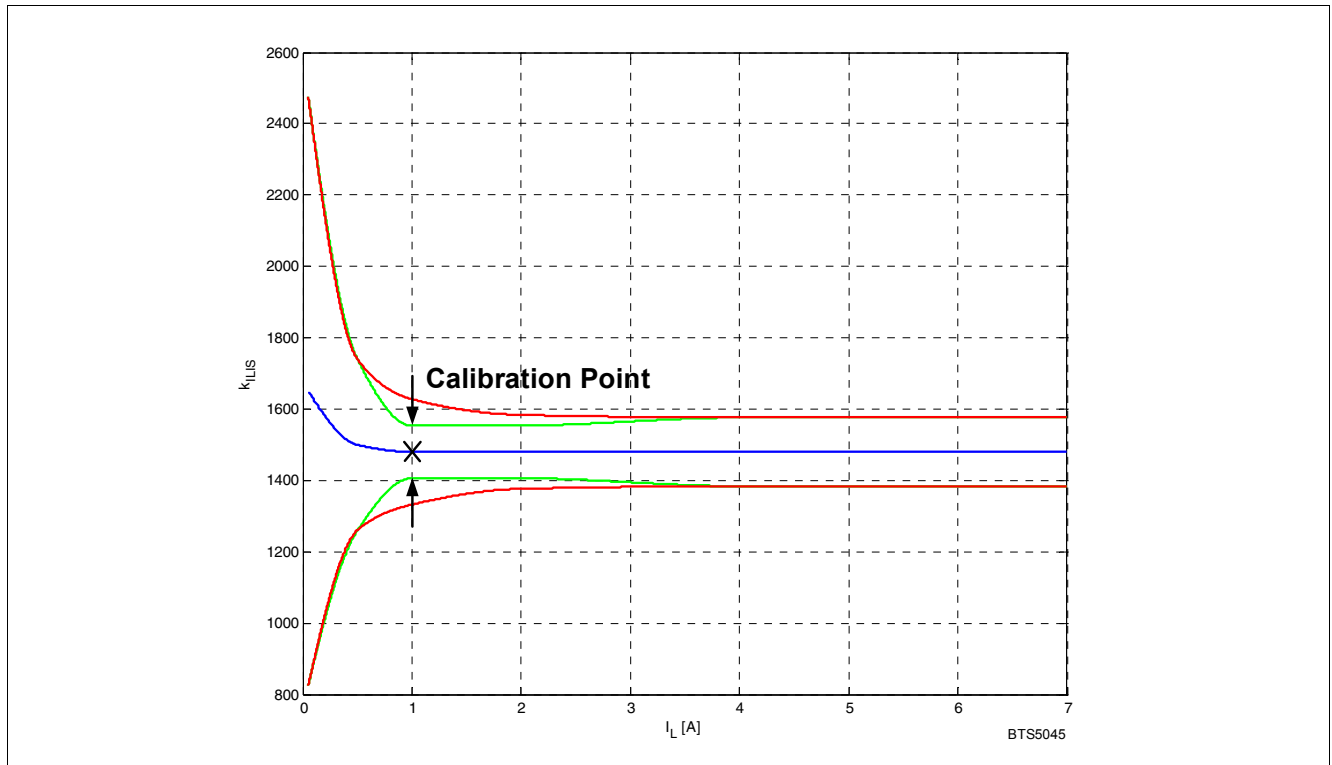

Figure 22 Improved SENSE Accuracy with One Calibration Point
**Figure 21** and **Figure 22** show the current sense as a function of the load current in the power DMOS. Usually, a pull-down resistor  $R_{IS}$  is connected to the IS pin. This resistor has to be higher than  $560\ \Omega$  to limit the power losses in the sense circuitry. A typical value is  $1.2\ \text{k}\Omega$ . The blue curve represents the ideal SENSE, assuming an ideal  $k_{ILIS}$  factor value. The red curves show the accuracy the device provides across full temperature range, at a defined current.
In some applications a better accuracy is required around half the nominal current  $I_{L(NOM)}$ . To achieve this accuracy requirement, a calibration on the application is possible. To avoid multiple calibration points at different load and temperature conditions, the BTS5045-2EKA allows limited derating of the  $k_{ILIS}$  value, at nominal load current ( $I_{L3}$ ;  $T_J = +25\ ^\circ\text{C}$ ). This derating is described by the parameter  $\Delta k_{ILIS}$ . **Figure 22** shows the behavior of the SENSE current, assuming one calibration point at nominal load at  $+25\ ^\circ\text{C}$ .
| $k_{ILIS}$ derating with current andtemperature                           | $\Delta k_{ILIS}$         | -5     | 0    | +5   | %             | 3) $k_{ILIS3}$ versus $k_{ILIS2}$See <a href="#">Figure 22</a>                                                                                            | P_7.5.17 |